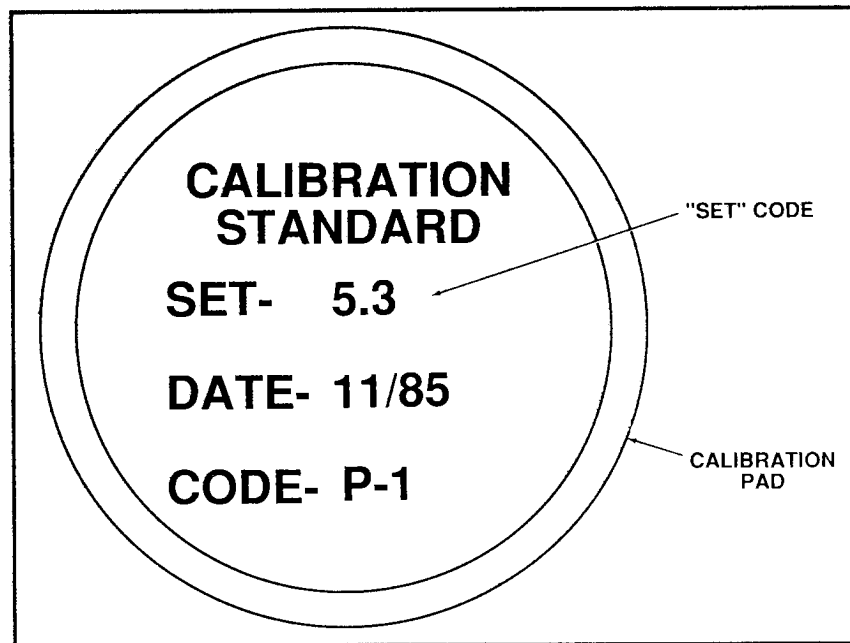

Figure 2.22 Calibration Pad and Calibration Set Code
- b.** Remove the calibration pad stored in Kit Find No. 34. The pad is covered with a clear plastic shielding and has a coding standard written on one side. Note the "Set" code in the center of the pad: this is the calibration setting you will use for calibrating. The sample pad shown in Figure 2.22 has a calibration set code of 5.3.